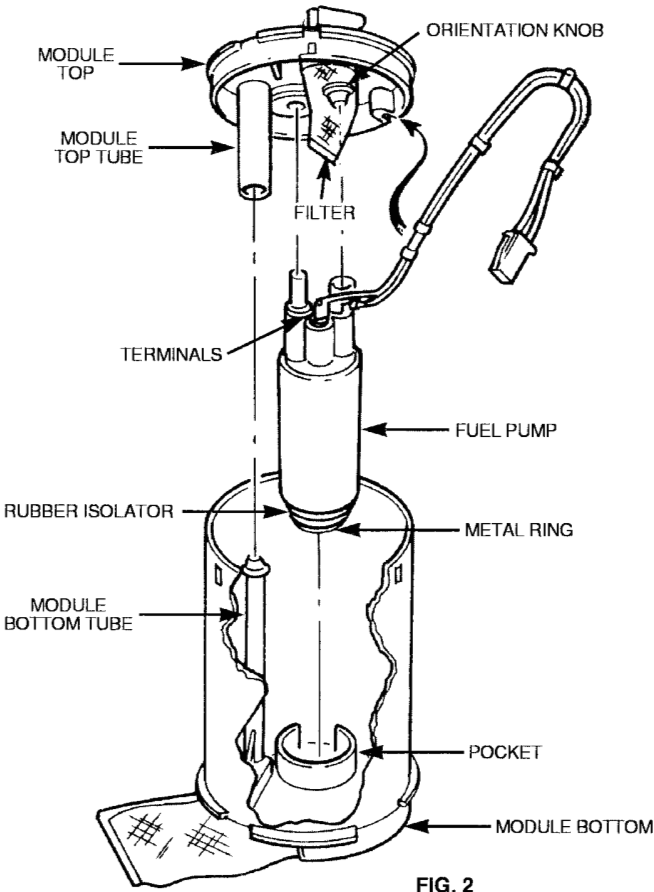

FIG. 2
D) Remove the clamp that secures the return line filter to the underside of the module top. Discard the old filter. Place the clamp around the new filter, place the filter on the hub and position the clamp around the filter to secure. SEE FIG. 2